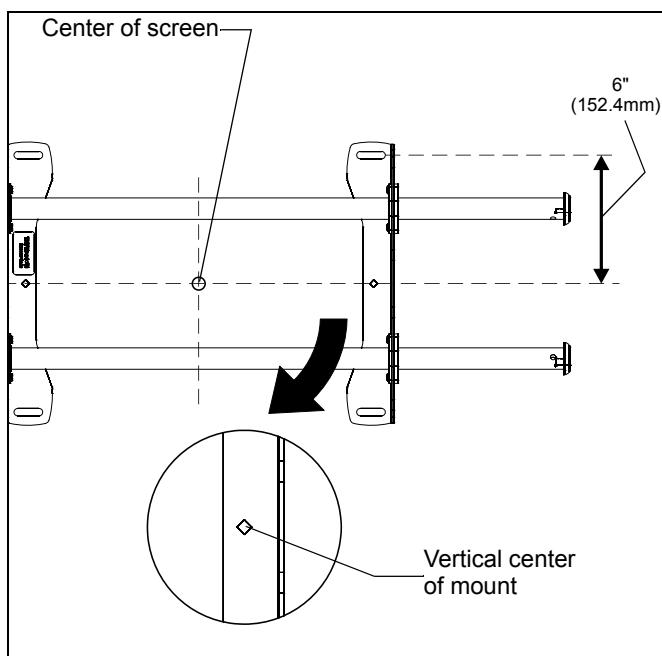

Figure 1
3. Line up the diamond on mount with center of screen marking to determine vertical center. (See Figure 1)
2. Line up the diamonds on mount with center of screen marking to determine vertical center. (See Figure 1)
3. Measure up 6" (152.4mm) from the center point to mark location of the upper mounting slots. (See Figure 1)